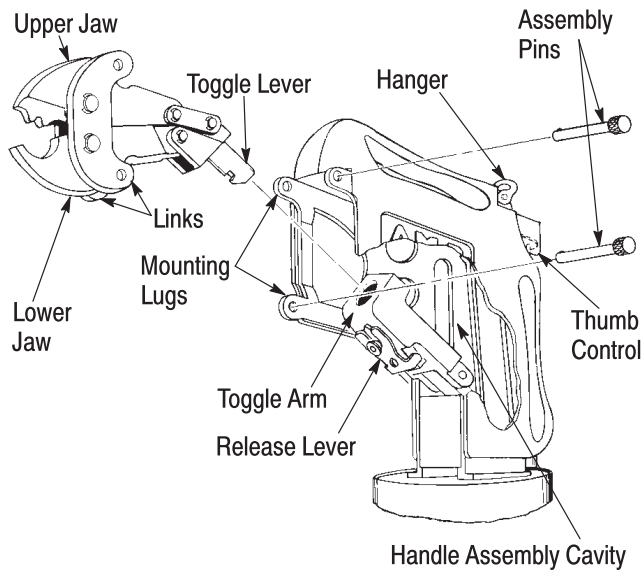

Figure 4
2. Remove the assembly pins from the mounting lugs as shown in Figure 4.
3. Pull the toggle arm forward. Insert the crimping head toggle lever all the way into the hole in the toggle arm until the toggle lever snaps in place. See Figure 4.
Remove debris from cavity (See Figure 4) of handle assembly. Tool may be wiped clean with solvent and a clean cloth.